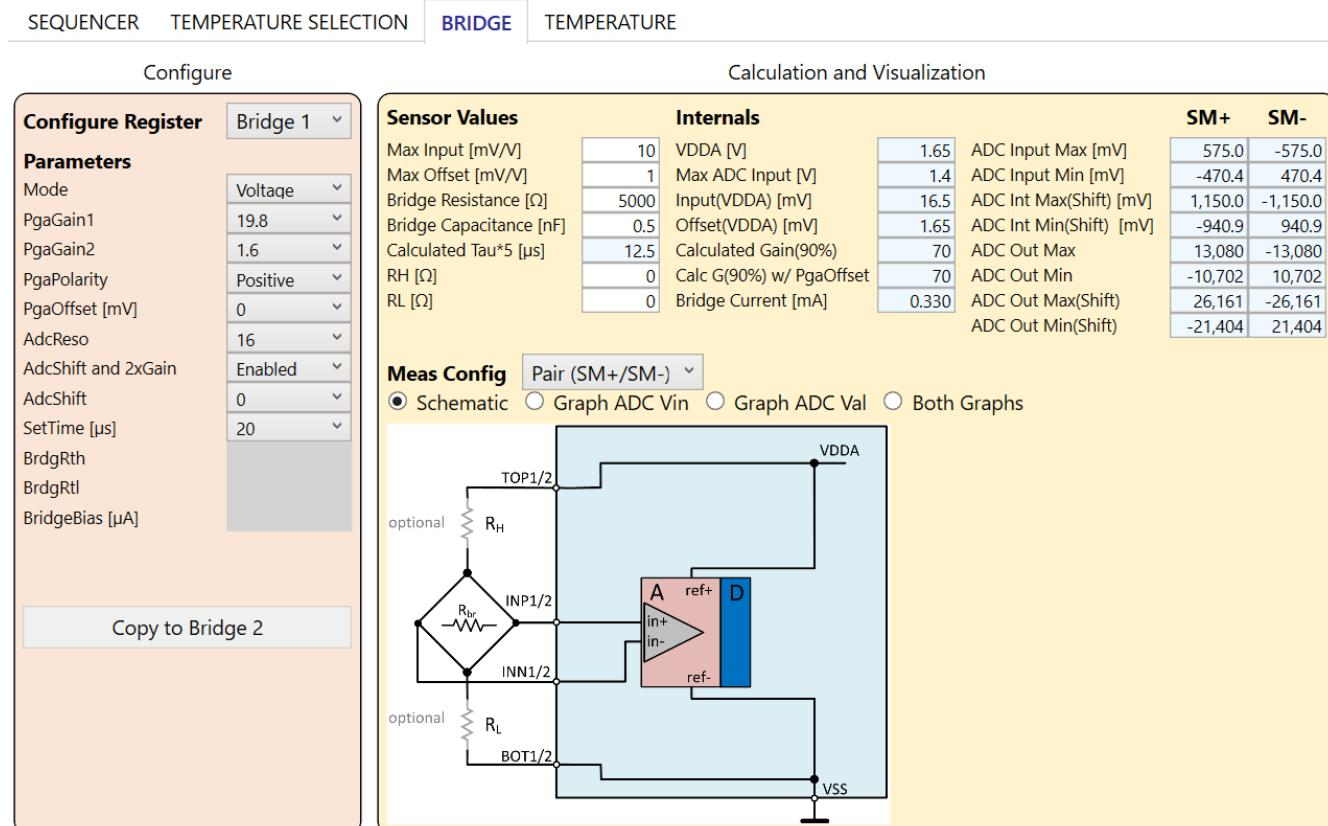

Figure 65. Voltage Mode
- Voltage: internal voltage supply (VDDA, refer to the ZSSC3281 *Datasheet* document), see Figure 65.